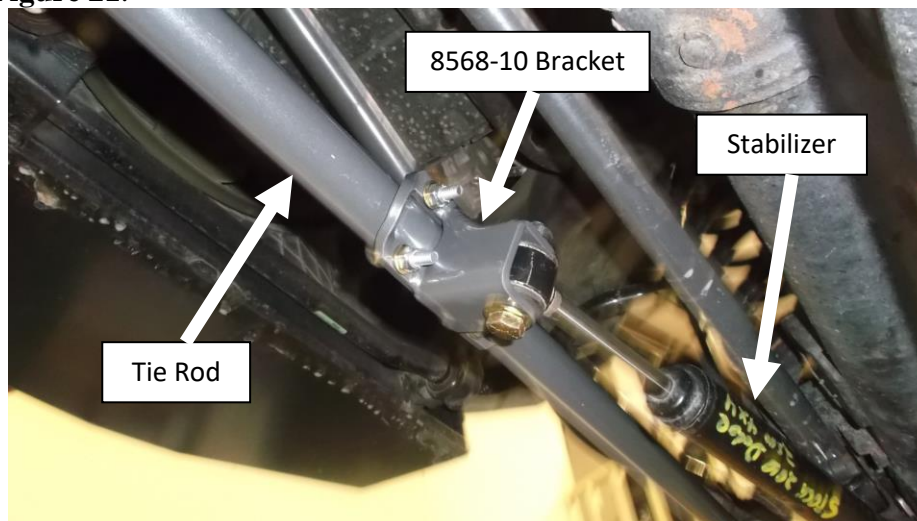

Figure 21. Steering Stabilizer Shown Mounted to 8568-10 Bracket
13. Attach the free end of the stabilizer to the 8568-10 bracket as shown. Install the 1/2-20 UNF x 2.5" long bolt and use a washer under both the bolt head and stover nut. Do not fully tighten bolt at this time. See **Figure 21**.